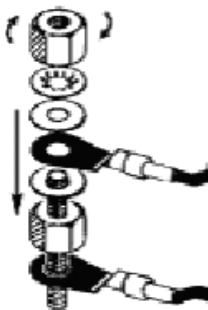

Fig.4 Cable Connection
5、 After installing the wiring terminals into the wiring studs as shown in Figure 4, press the special anti-lock washer and tighten the wiring nuts fully. Pay attention to the mutual position of the wiring terminals and ensure that the electrical gap is greater than 8mm.